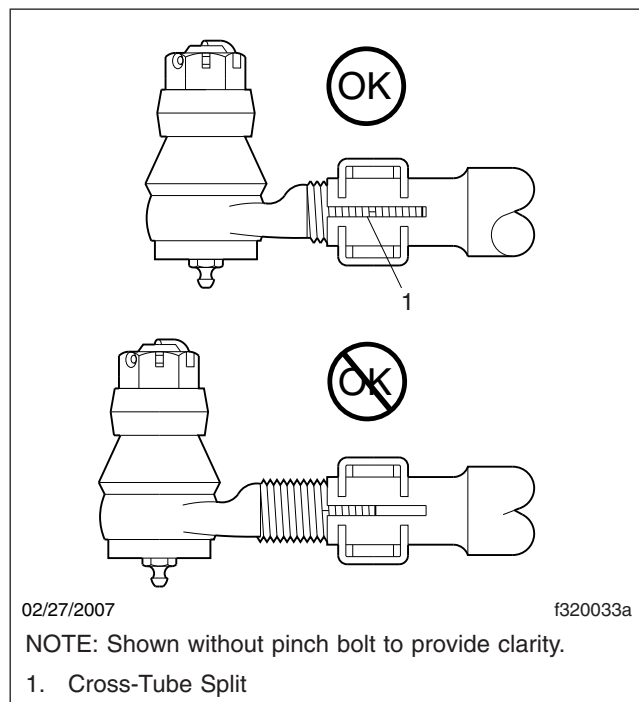

Fig. 2, Tie-Rod End Adjustment
2. The threaded portion of the tie-rod end assembly must be inserted all the way into the cross-tube split for adequate clamping. See Fig. 2. Replace the components if this cannot be done. For instructions, refer to **Group 33** of the *Columbia® Workshop Manual*.